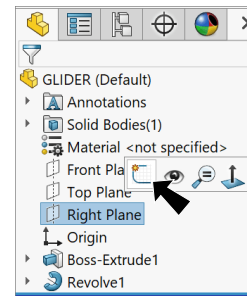

Fig. 17
Step 1. Click **Right Plane**  in the Feature Manager and click **Sketch**  on the context toolbar, **Fig. 17**.